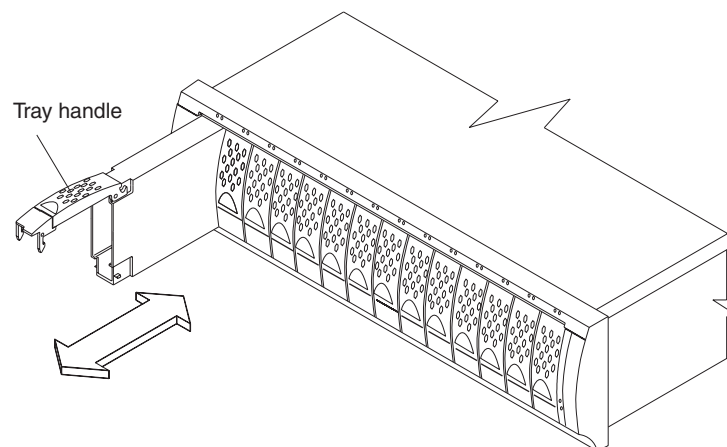

Figure 16. Removing a drive CRU
3. Pull the tray handle out so that it is in the open position to release the drive CRU. Pull the drive out of the bay, as shown in Figure 16.